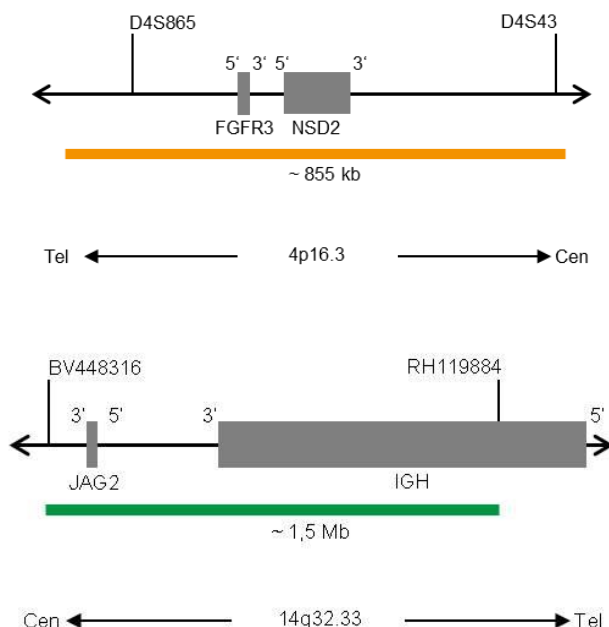

Fig. 1: Top: SPEC FGFR3 Probe map; Bottom: SPEC IGH Probe map (not to scale)
- ZyOrange (excitation 547 nm/emission at 572 nm) labeled polynucleotides (~6.0 ng/ μ l), which target sequences mapping in 4p16.3* (chr4:1,496,938-2,351,657) harboring the FGFR3 gene (see Fig. 1).
- ZyGreen (excitation 503 nm/emission 528 nm) labeled polynucleotides (~12.0 ng/ μ l), which target sequences mapping in 14q32.33* (chr14:105,462,169-106,995,000) harboring the IGH locus (see Fig. 1).